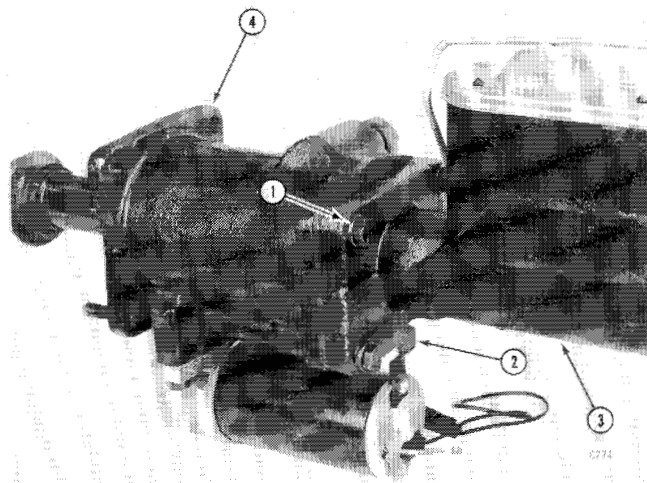

Figure 79
Position master cylinder (3, Figure 79) against power booster assembly (4). Swing grounding bracket (2) back in place and install four capscrews and lock washers (1) in power booster assembly (4).